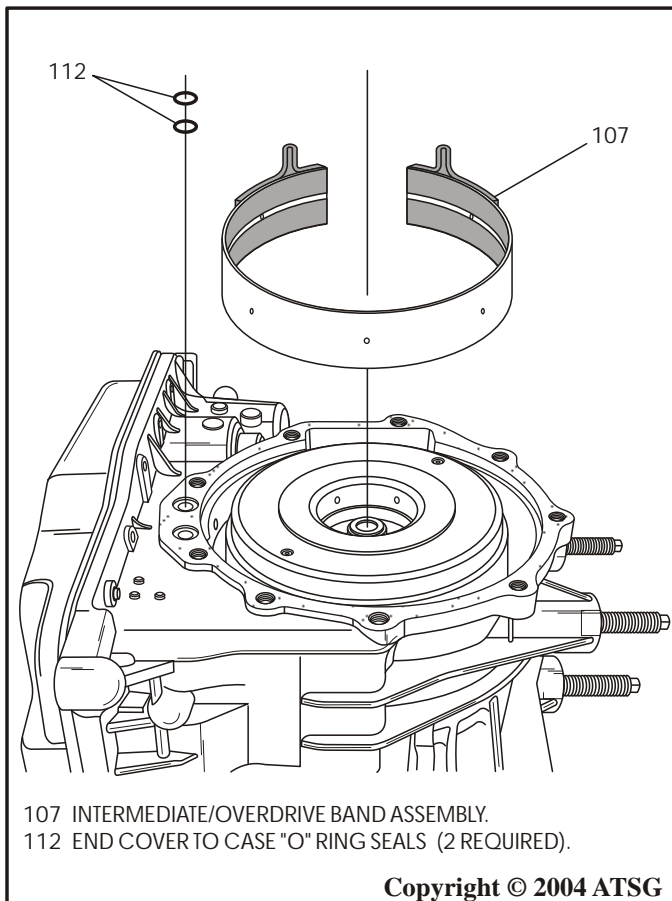

Figure 176
49. Install intermediate/overdrive band assembly, as shown in Figure 176.
50. Install two new end cover to case "O" ring seals into the pockets in the case, as shown in Figure 176, and retain with Trans-Jel®.